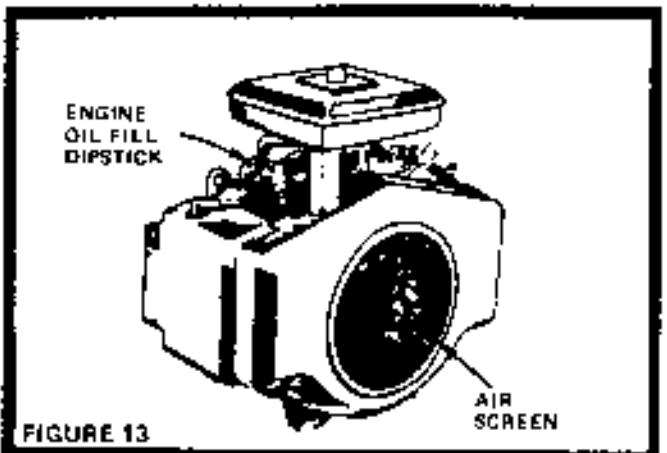

FIGURE 13
- b. Refill Engine Oil (Fig. 13). In summer use S.A.E. 30 ISC, SD, SE or SF Oil. In winter (below 32°F.) use S.A.E. 10W30 (SC, SD, SE or SF). In extreme cold (below 0°F.) use S.A.E. 5W20 (SC, SD, SE or SF). DO NOT USE 10W40 OIL. Refill capacity is 3 pints. NOTE: DO NOT OVERFILL.
Several minutes after stopping Engine, check Engine Oil Level with Tractor on level ground. Wipe dipstick (Fig. 13) clean, push it down tight for a few seconds, remove and read Oil Level. If necessary, add Oil until "FULL" mark is reached. In summer use S.A.E. 30 (SC, SD, SE or SF) Oil. In winter (below 32°F) use S.A.E. 10W30 (SC, SD, SE or SF). In extreme cold (below 0°F) use S.A.E. 5W20 (SC, SD, SE or SF). DO NOT USE 10W40 OIL. NOTE: DO NOT OVERFILL.